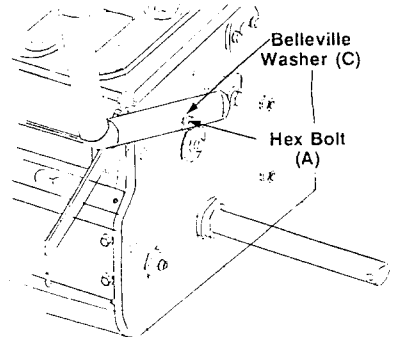

FIGURE 4 - Wheel removed for clarity.
- Slide the slotted end of the handles under the Belleville washers on the hex bolts (B).
- Secure the upper hole in the handles with Belleville washers (C) (cupped side against the handles) and hex bolts (A). See figure 4. Do not tighten at this time.